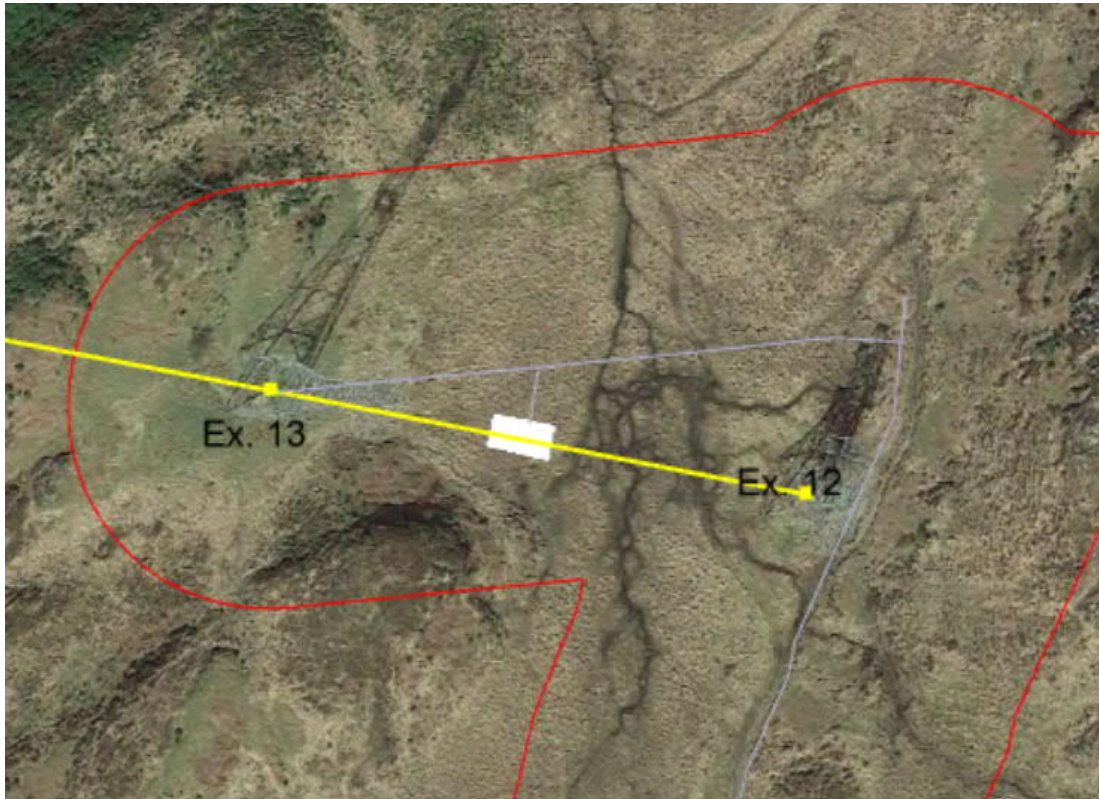

Figure 4 – Google Earth view showing EPZ Position at East side of crossing
- 3.1.2 Equi-potential zones (EPZ) set up adjacent to anchor towers (anchor towers sit behind the crossing towers). See Figure 1 below. The EPZ will be Approx 10x15m (Figure 4) and will be installed from 2 weeks prior to the first water closures in preparation of the reconductoring works. Figures 2 and 3 show the location of the EPZ set ups at either side of the crossing.